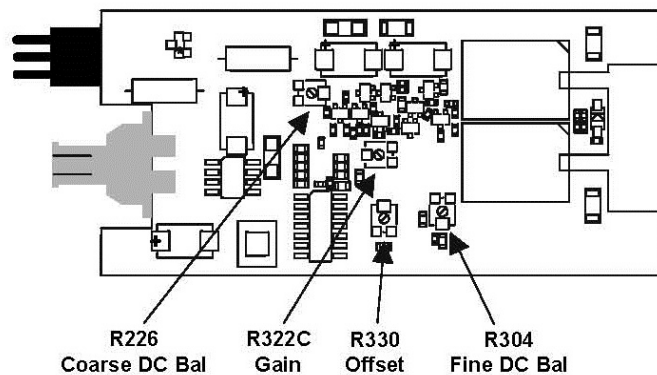

Figure 11, Amplifier Board Adjustment Locations
5. Adjust **Coarse DC Bal** (R226) on the amplifier board for an output voltage of 0 mV -10 mV. (See Figure 11 for location.)
11. Adjust **Offset** (R330) to bring the trace back to exactly center screen. (See Figure 11.)
9. Adjust **GAIN** (R322C) so that the DMM reading is within ± 1 mV (0.5%) of the reading recorded in step F-6. (See Figure 11.)